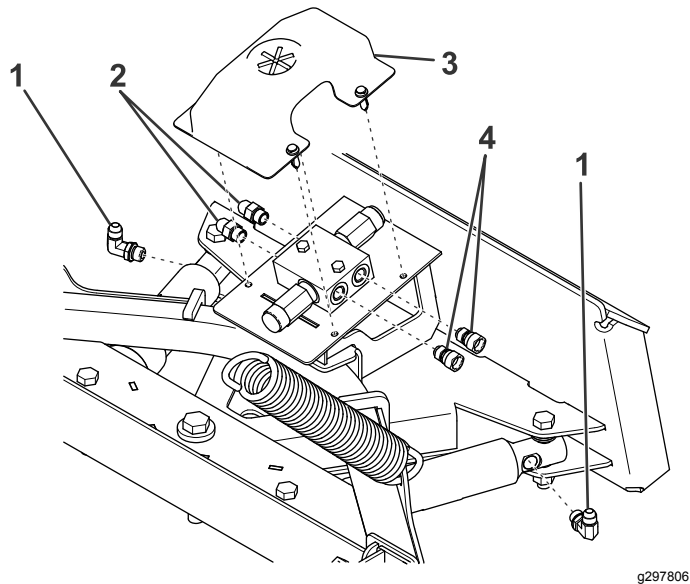

Figure 6
1. Remove the crossover cover (Figure 6).
2. Using thread compound, install a 90° fitting on each angle cylinder located on the push-frame assembly (Figure 6).
3. Using thread compound, install 2 female fittings to the left side of the hydraulic block (Figure 6).
4. Using thread compound, install 2 male fittings to the right side of the hydraulic block (Figure 6).